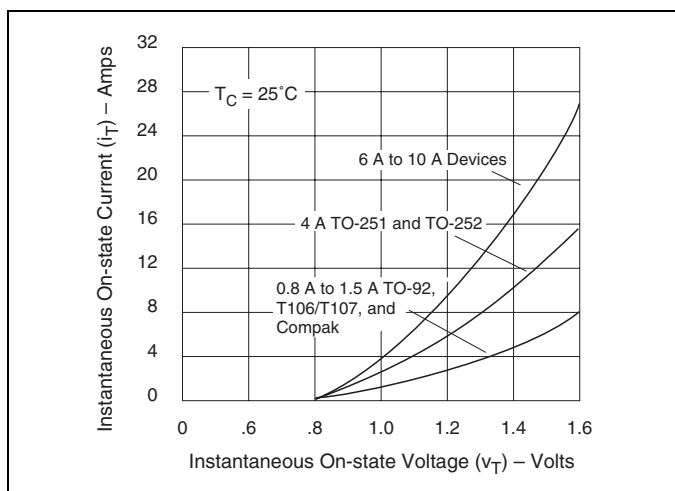

Figure E5.11 Instantaneous On-state Current versus On-state Voltage (Typical)
- (3) See Figure E5.11 for instantaneous on-state current (I_T) versus on-state voltage (V_T) TYP.